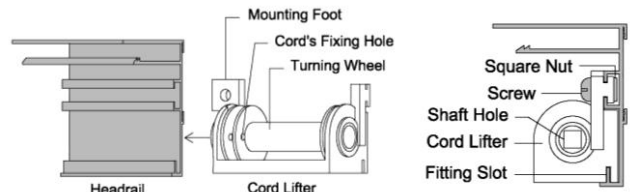

Figure 5
- Insert cord lifters from any end of the headrail such that the fitting slot of the cord lifter is sitting on the headrail's components sitting bar (Refer to Figure 17) and screw them into place as desired through its mounting foot. Refer to Figure 5.